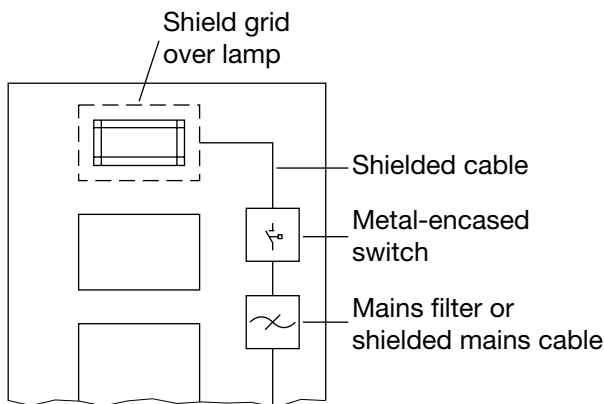

Fig. 6: Interference suppression of fluorescent lamps in cabinet
- Cabinet lighting: Use filament lamps (e.g. LINSTRA lamps) for the cabinet lighting. Do not use fluorescent lamps because they generate interference fields. If the use of fluorescent lamps cannot be avoided, the interference suppression measures shown in Fig. 6 must be implemented.